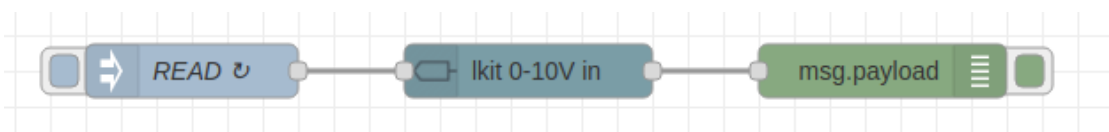

Figure 7-12: Continuous Reading of Voltage In
Here is an example Debug output for the flow of Figure 7-12 above for two AA alkaline batteries in series.
**Engineering Tip # 13 - Accuracy and Precision (Discussion # 1).** Two new Alkaline AA batteries in series will produce just about 3.2 volts. When you looked at the Debug output (Figure 7-12 above) you probably noticed that the voltage jumped around a bit and that it only occasionally showed 3.2 volts (or maybe it showed some lower or higher voltage. Your measurements are subject to errors in “accuracy” and in “precision”. These are two different concepts although when engineers talk about measurements, they frequently use the terms interchangeably and in error (they are not speaking accurately about precision and with precision about accuracy!!!).
Now you are ready to determine your potentiometer's taper. Plug your pot and template arrangement into the Voltage In port (see Figure 7-1) and deploy the flow from Figure 7-12. Once you do this, go to the debug side bar and look at the voltages that are read every five seconds.